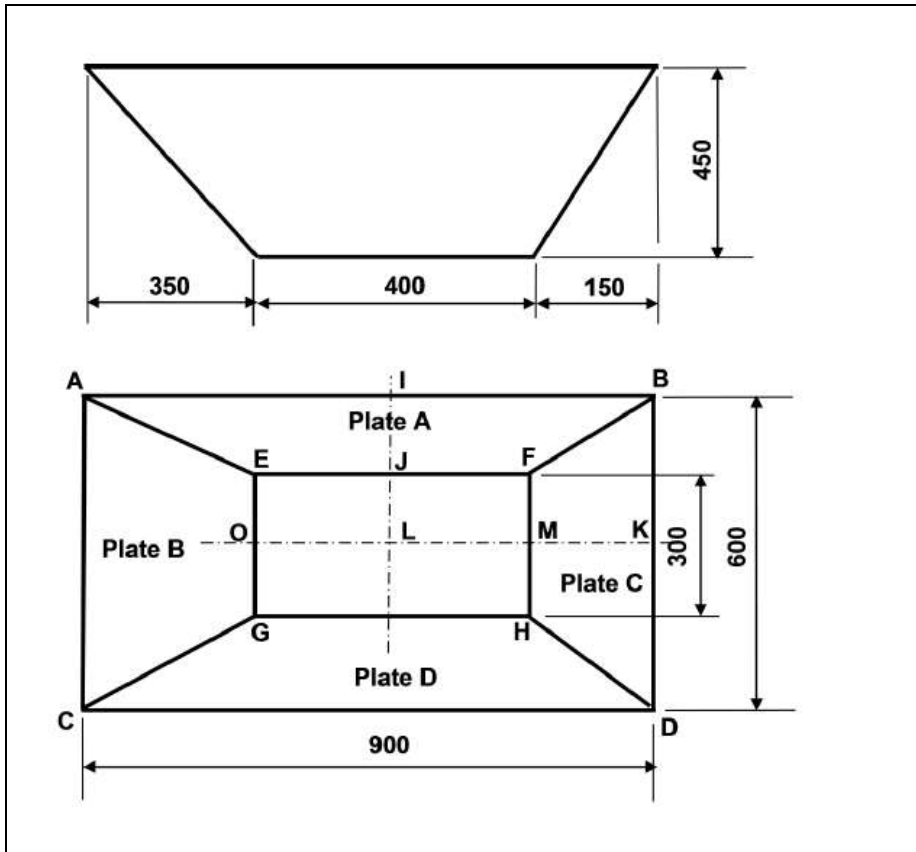

FIGURE 3
**QUESTION 8 TERMINOLOGY (DEVELOPMENT)** FIGURE 3 below shows an off-centre rectangular to rectangular hopper.